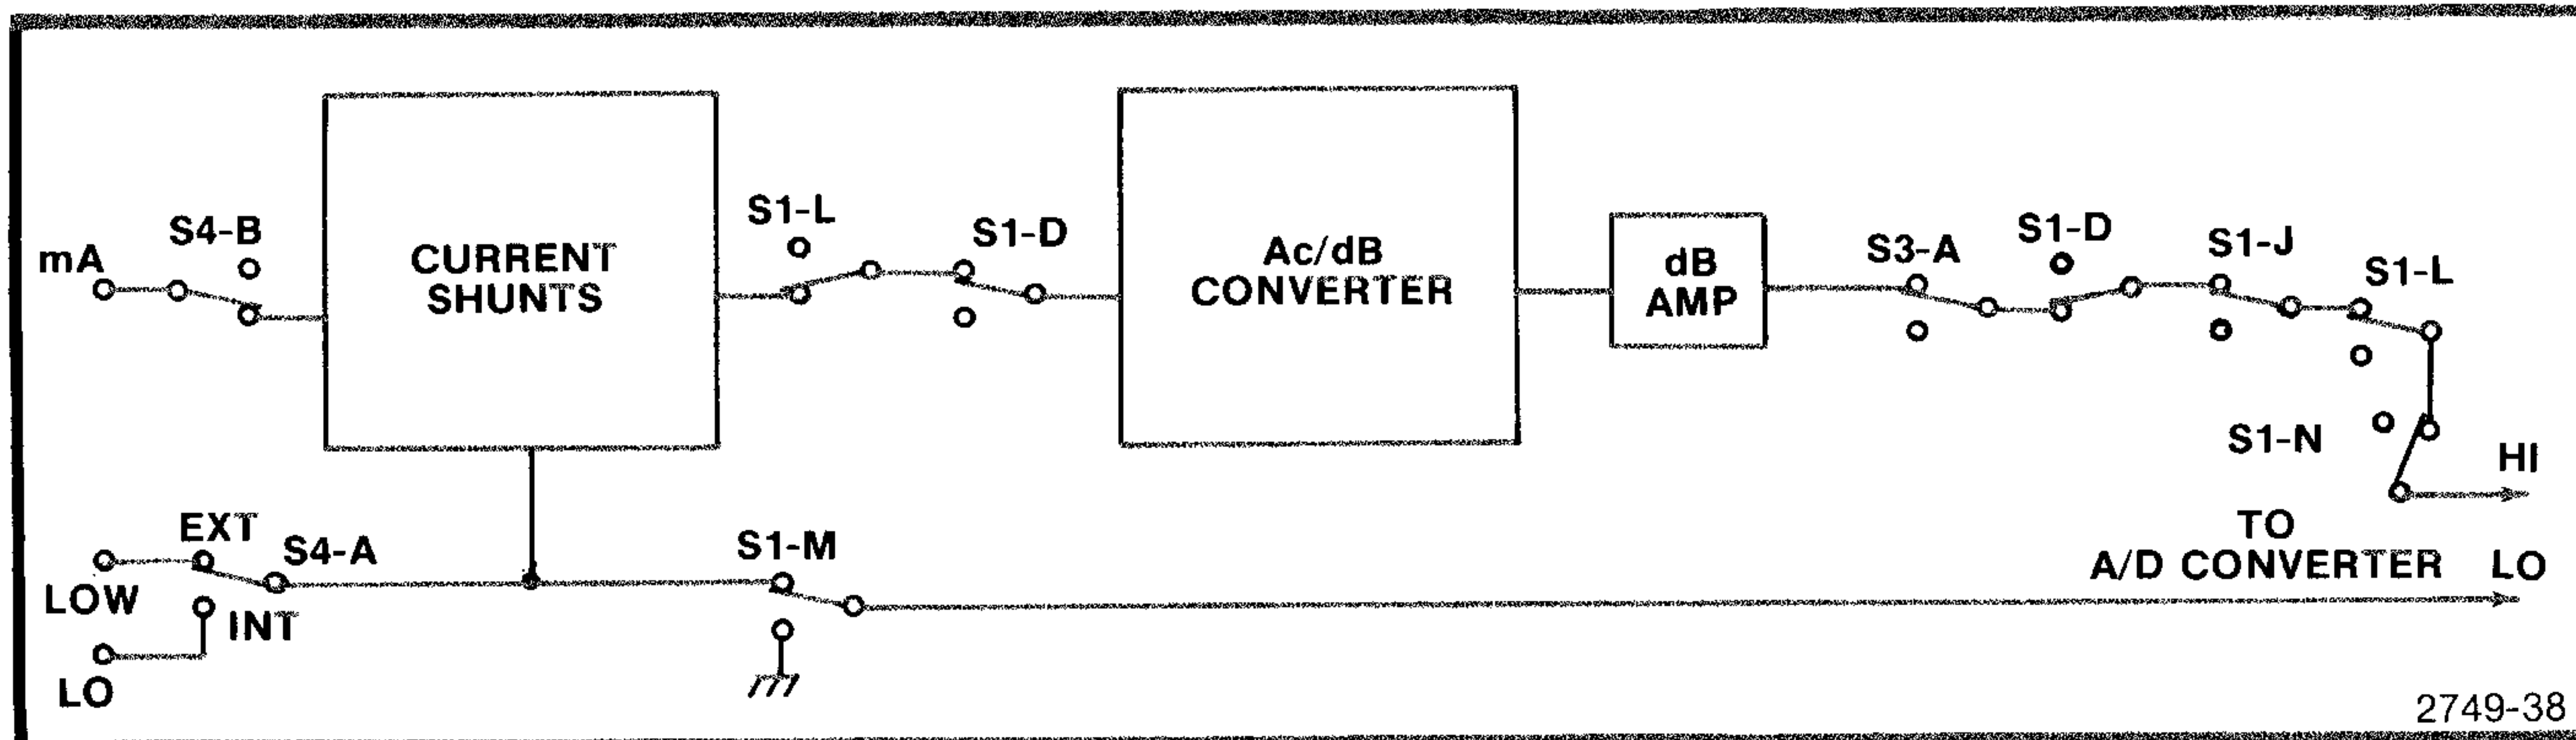

Fig. 3-3. dB switching.
**dB Input Circuitry 1 (Refer to Fig. 3-3)**